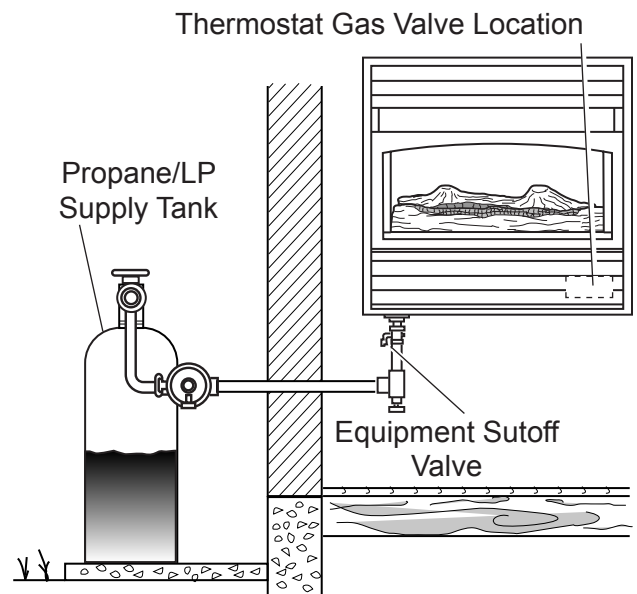

Figure 16 - Checking Gas Joints
4. Check all joints from equipment shutoff valve to thermostat gas valve (see Figure 16). Apply mixture of liquid soap and water to gas joints. Bubbles forming show a leak.